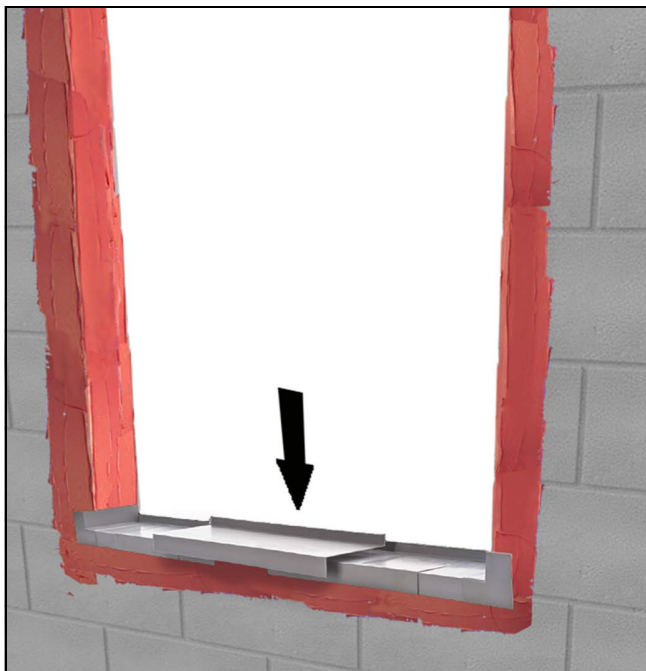

Figure 3
3. If you will not be using rigid panning, you could instead apply a barrier such as self sealing adhesive flashing or CMU sealer (liquid-applied coating) to all four sides of the masonry opening, buck wood and return on the face of the exterior substrate prior to window installation. See Figure 3.